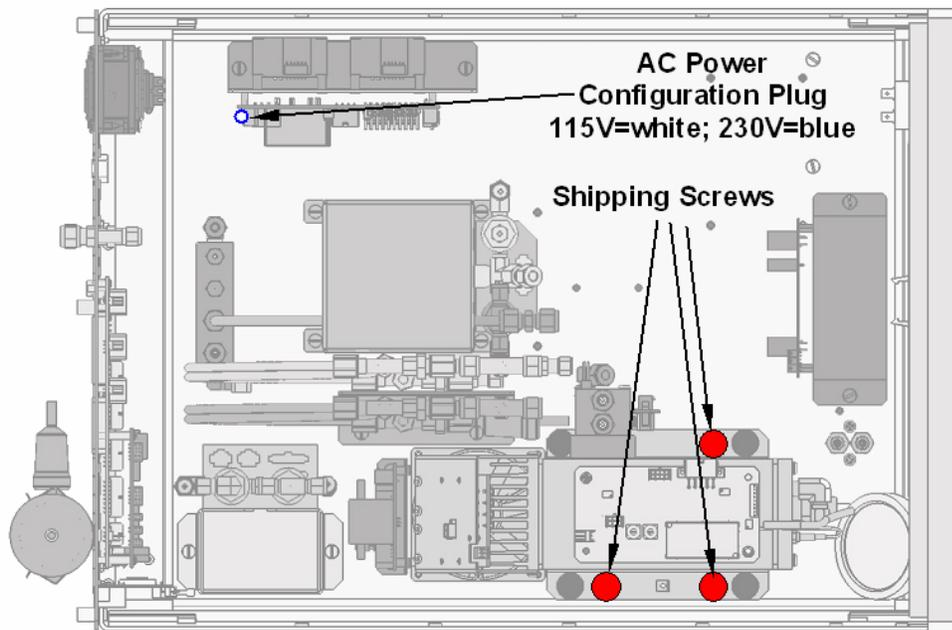

Figure 3-1: Location of Shipping Screws and Power Configuration Plug
- Once you have determined that no shipping damage exists and the unit includes all expected hardware options, remove three, red colored shipping screws from the bottom of the chassis, shown in Figure 3-1.
The M9110E analyzer can be configured for both 100-130 V and 210-240 V at either 50 or 60 Hz. To avoid damage to your analyzer, make sure that the AC power voltage matches the voltage indicated on the rear panel serial number label and that the frequency is between 47 and 63 Hz. Refer to Figure 3-1 to locate and identify the power configuration plug if necessary.
If you need to reconfigure your analyzer for one of the other voltage ranges, contact the factory for an optional power configuration jumper (shown in Figure 3-1)